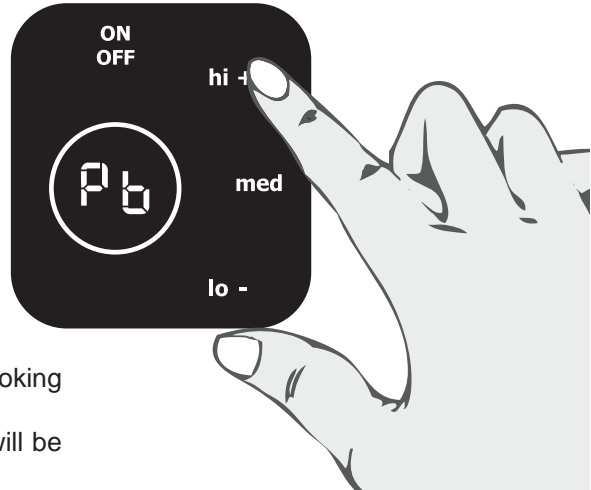

Figure 1
- Press the **"hi +"** key pad and the **Pb** will be shown in the display (figure 1).